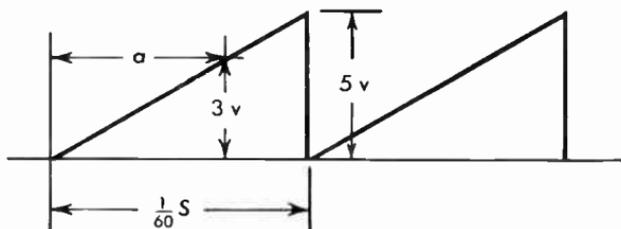

Fig. 13.02 Saw-tooth wave as applied between grid and cathode of the thyatron tube in problem 13.02.
**13.02** The thyratron tube type 502-A is operated at a plate voltage of 350 volts; the control grid direct voltage at start of discharge is -3 volts. A saw-tooth wave of the shape shown in Figure 13.02 is applied between grid and cathode with the terminal voltage of the
The period  $a$  in Figure 13.02 is the time during which the grid is less negative than  $-3$  volts. Therefore  $a$  is the active period of the tube. We have the proportion of similar triangles